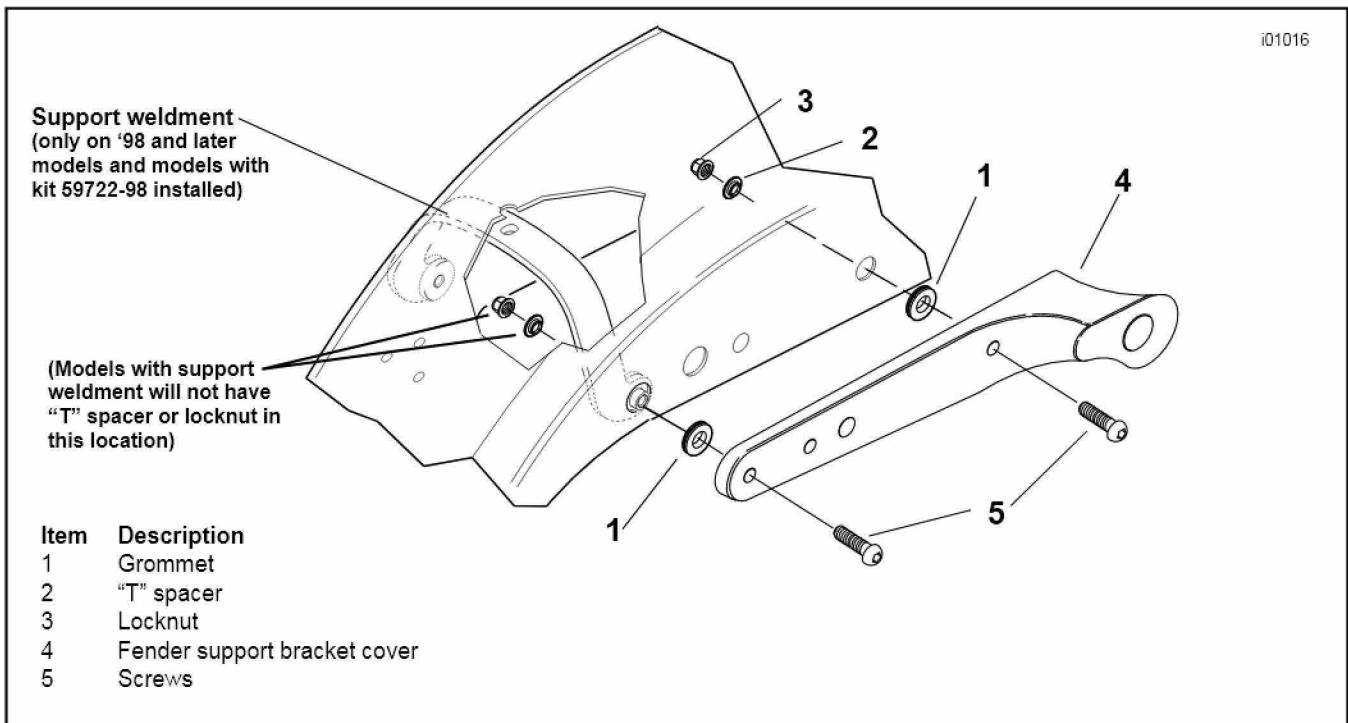

Figure 1. Rear Fender Support (right side shown)
See Figure 1. 1998 and later models, and models with kit number 59722-98 installed have a support weldment and do not have a locknut or "T" spacer behind the last hole of the fender support. The screw threads directly into the weldment.
1. See Figure 1. Remove the original bolts and locknut(s)* from the two fender support bracket docking point locations. Leave the grommets (1) and "T" spacer(s)* (2) in place.
2. See Service Parts Illustration. Attach the docking points (2 & 3) as shown with the locknut(s)* (4) on the inside of the fender. Coat bolt (1) threads with Loctite 242 (Blue) before installation. Tighten the locknut(s)* (4) to 15 ft-lbs (20 Nm).